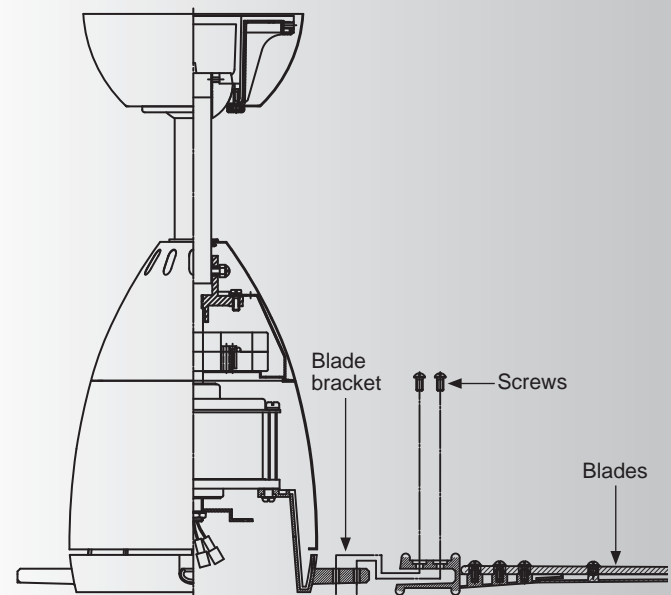

Fig. 14
Step 1. Place the tube on the top of blade over the blade bracket, secure the blade to the blade bracket using the screws provided. (Fig.14)